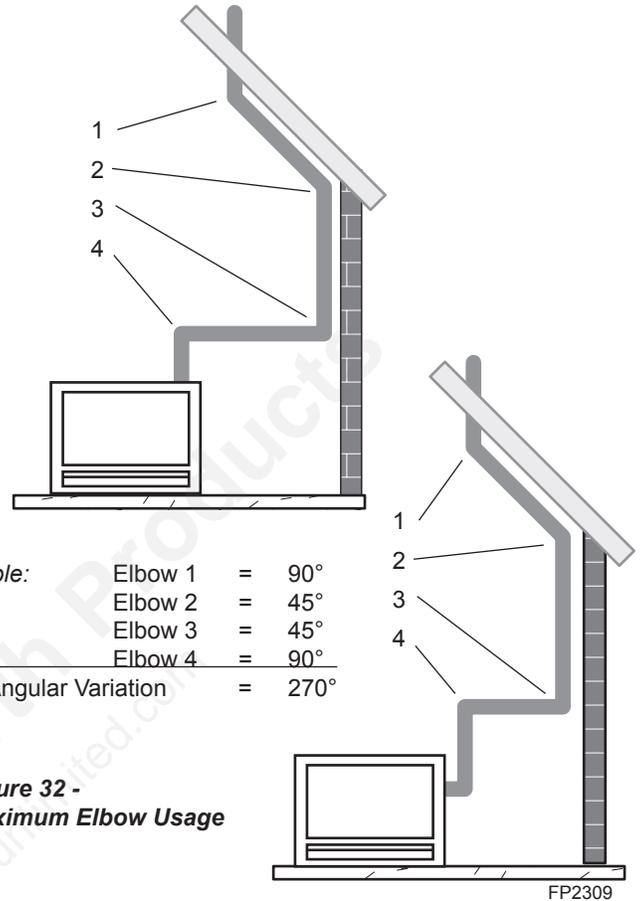

Figure 32 - Maximum Elbow Usage
- Two sets of 45° elbows offsets may be used within the vertical sections. From 0 to a maximum of 8' (2.5 m) of vent pipe can be used between elbows. Figure 32
- The maximum angular variation allowed in the system is 270°. Figure 32